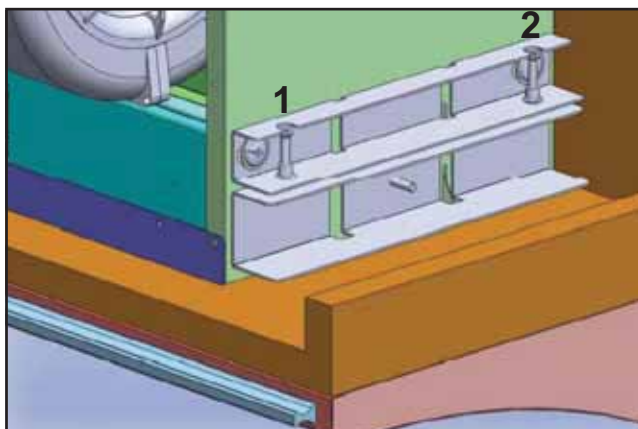

Fig.9
8) Install (2) 3/16x1" screws into the captive nuts of each upper installation bracket. Tighten screws to adjust the height of range hood until there is no gap between the cabinet bottom and front edge of hood, Fig.9. After hood is positioned, fully tighten the lower installation bracket screw from step 7, Fig.8-1.